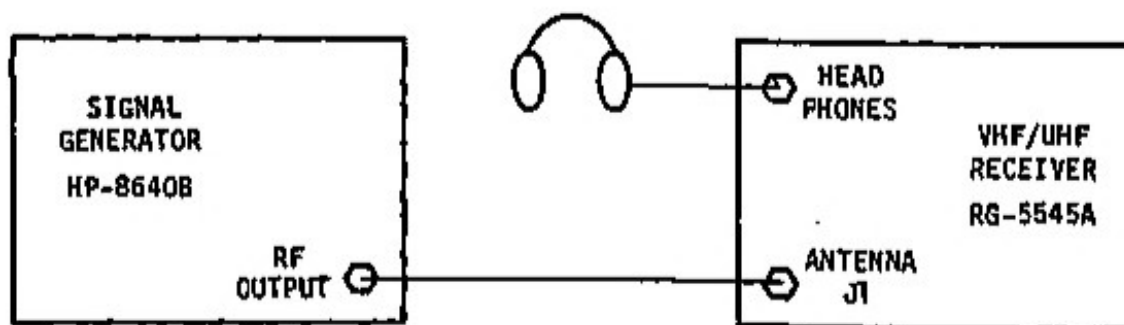

Figure 5-1. Receiver Tuning Test Set-up
1. Connect signal generator to ANTENNA connector J1 on Receiver rear panel as shown in Figure 5-1.
15. Connect signal generator as shown in Figure 5-1 and adjust for 205.65432 MHz at -20 dBm.